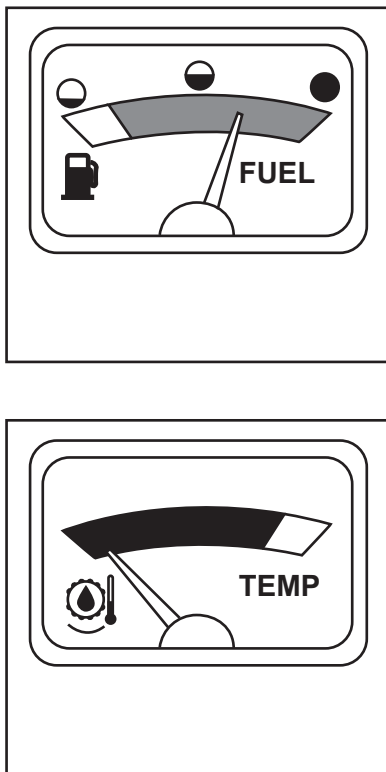

Figure 50. Fuel and Temperature Gauge
2. Watch coolant temperature gauge (see Figure 50) closely. If gauge goes into the RED zone, slow ground speed to reduce load.